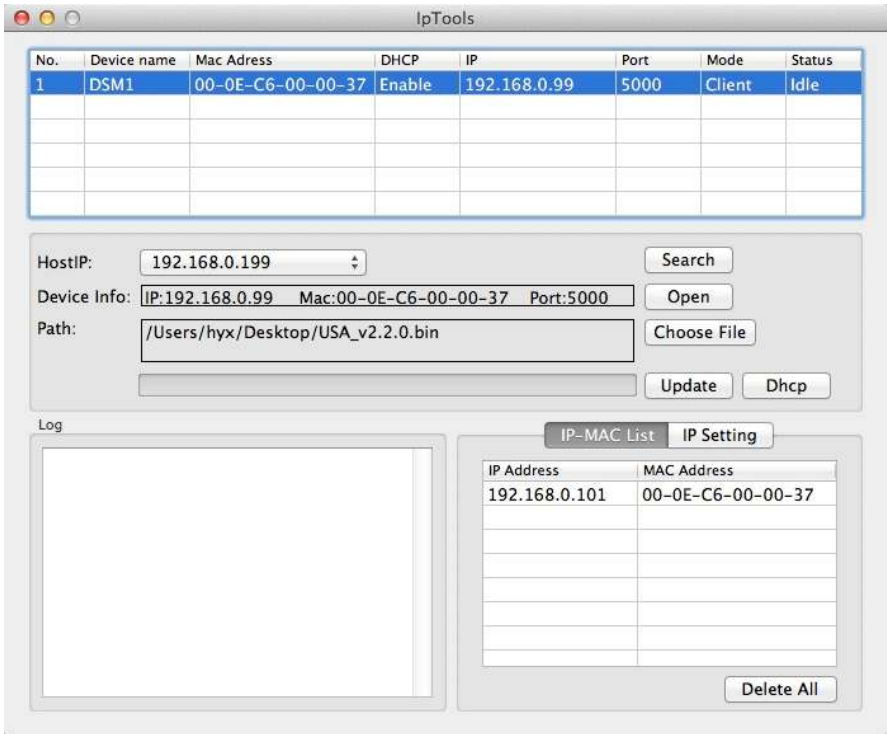

Figure 35
- Launch the IP Tools application as referenced in Section 4.6.4.2, and locate the device on your network. Reference Figure 35. As shown in this figure, the IP address of the device is 192.168.0.99. Make a note of your IP address (your results will vary).